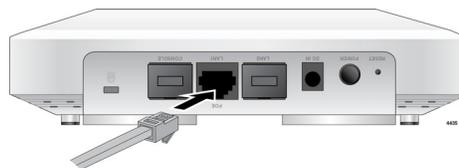

Figure 11. Connecting the Ethernet Cables to LAN1 Port
- Connect one Ethernet cable into the RJ-45 LAN1 port. Refer to Figure 11. This is the primary Ethernet port, which also capable of receiving PoE power.